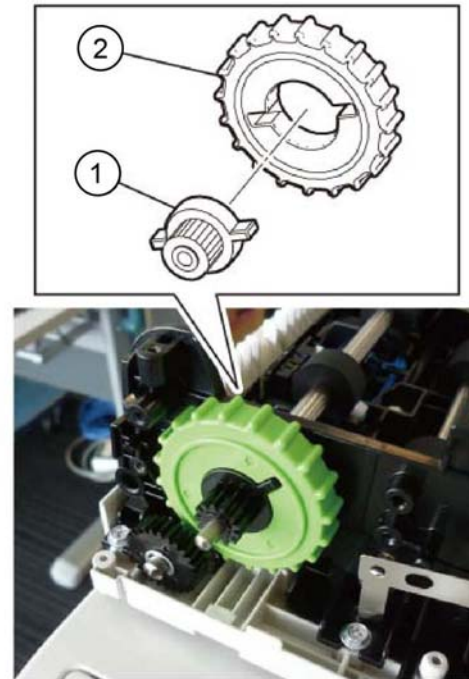

Figure 7 Knob
13. Remove the knob, Figure 7:
- a. Remove the gear (1).
- b. Remove handle knob (2).